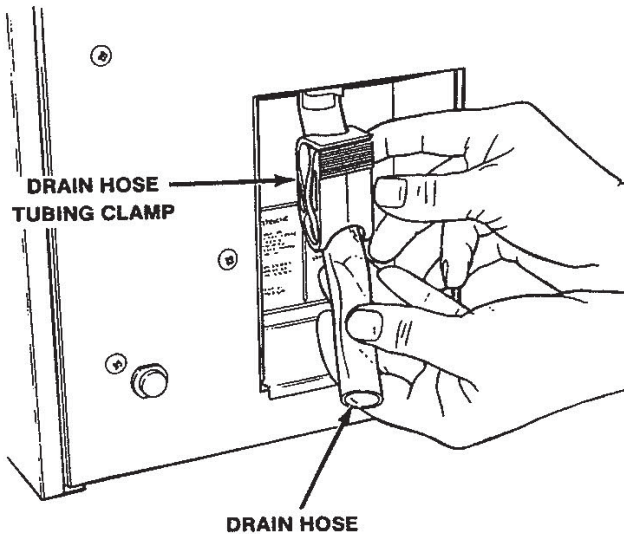

Figure 10. Draining Product
- D. With a bucket placed below the drain hose, open the drain hose by releasing the tubing clamp (Fig. 10).